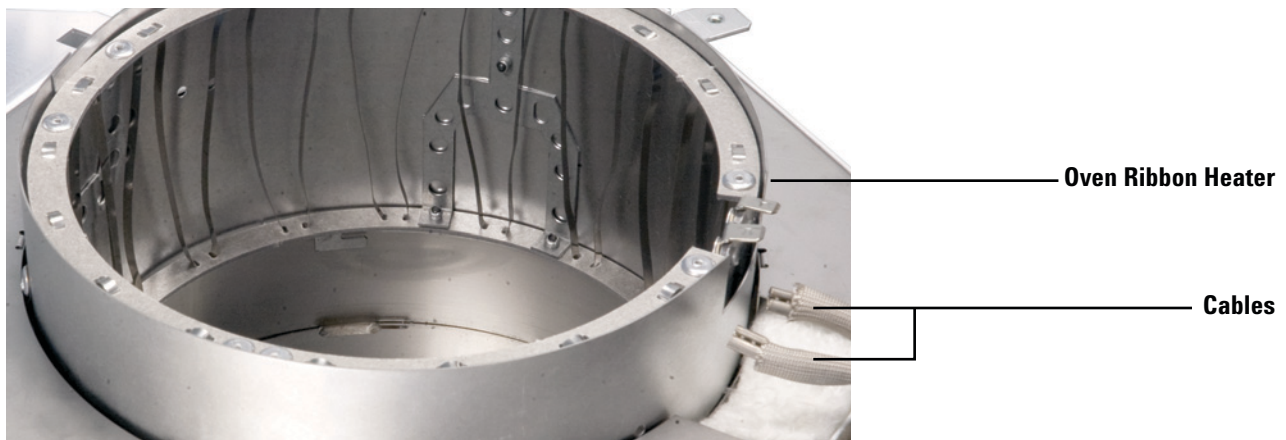

Figure 21 Removing the oven ribbon heater cables
- a** Carefully remove the two cables attached to the oven ribbon heater using needle nose pliers (Figure 21).